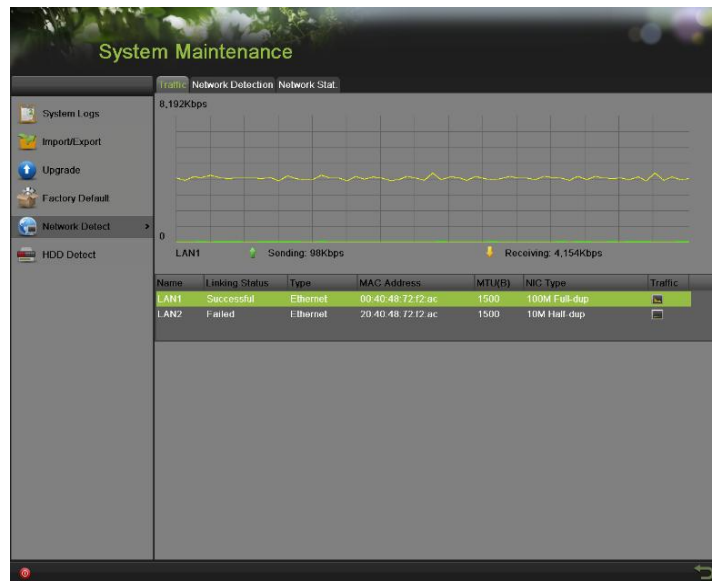

Figure 176 Traffic Detection
2. Select the Traffic tab and you can view the sending rate and receiving rate information on the interface, as shown in Figure 176. The traffic data is refreshed every 1 second.